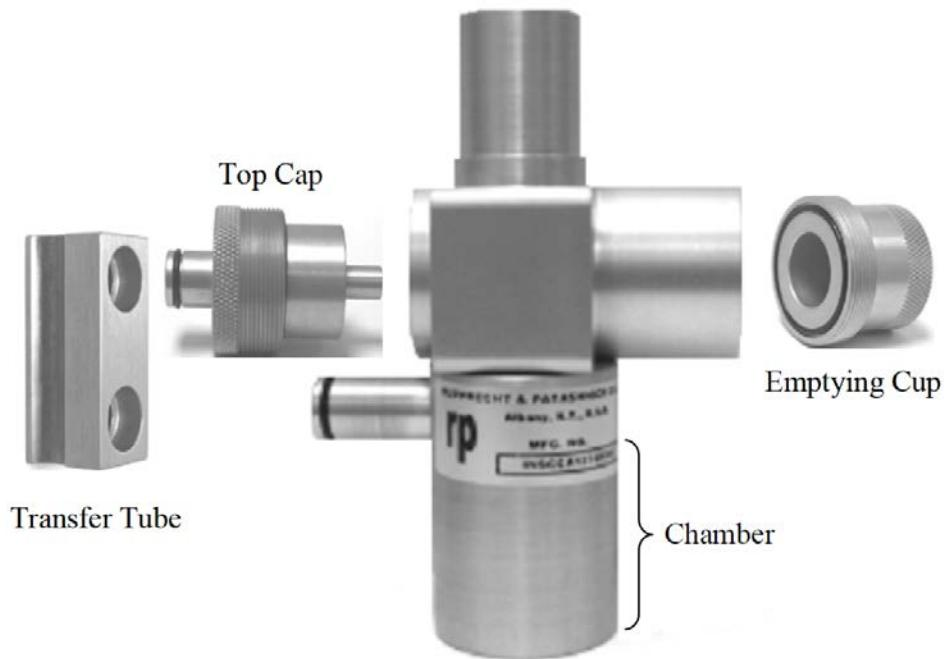

Figure 9: Exploded view of VSCC components (Vaughn, 2009)
1. Remove the top cap and the emptying cup as shown in Figure 9.